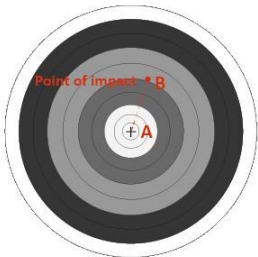

Fig. 13
- 1. **Shoot:** Fire a shot at the center of the target (A) and ensure that the point of impact(B) is clearly visible on the screen as shown in Fig. 13.